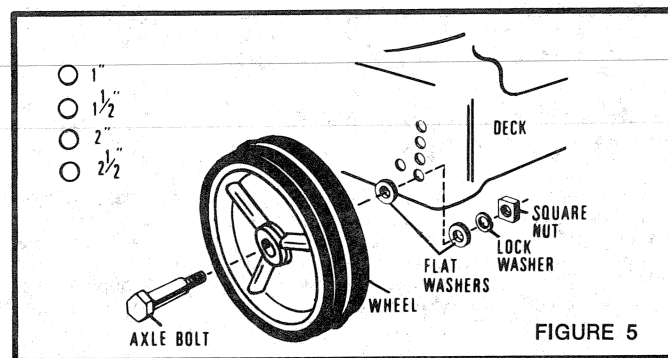

FIGURE 5
1. Select the cutting height you will want to use on your lawn and note which mounting hole (Fig. 5) will give you this height.